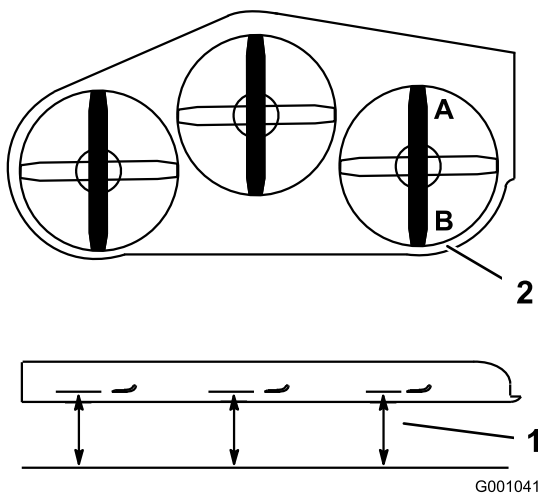

Figure 87
- Position the **right** blade front-to-rear (Figure 87).
- Measure the right blade at the **A** location, from a level surface to the cutting edge of the blade tip (Figure 87).
- Measure the right blade at the **B** location, from a level surface to the cutting edge of the blade tip (Figure 87).
- The mower blade should be a 1/4 to 3/8 inch (6 to 10 mm) lower at position **A** than at position **B** (Figure 87). If it is not correct, proceed to the following steps.